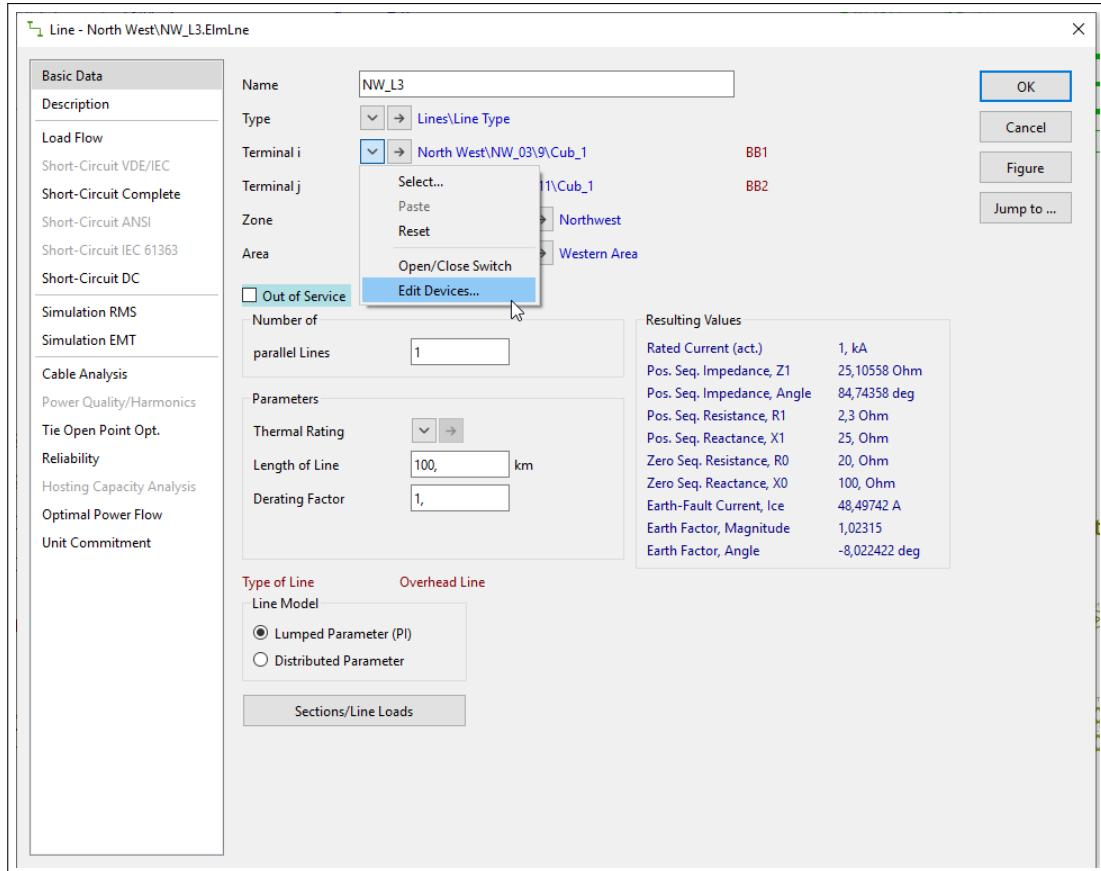

Figure 33.2.2: Editing line protection devices
- (b) Click the  button next to the end of element where you want to place the protective device. For a line element this will say “Terminal i/j” and for a transformer this will say “HV/LV-side”. A menu will appear. See Figure 33.2.2 for example.
- (c) Choose *New Devices* or *Edit Devices* and following the remaining steps from 2b or 3c respectively. The areas which can be right clicked in a typical detailed substation graphic are ringed in Figure 33.2.2.